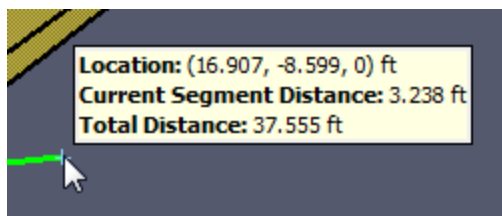

Figure 103. Information displayed by the measure tool
2. Either click several points to measure the total distance along a path or click-drag to measure a single distance between two points. As the cursor is moved, the current cursor location, total path length, and length of the most recent segment are displayed as shown in Figure 103.